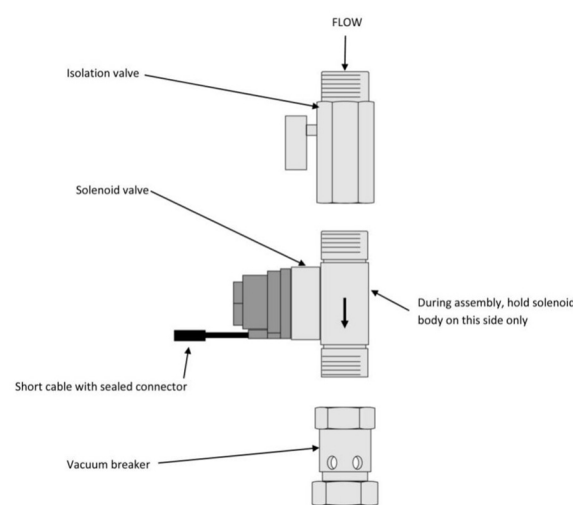

Fig. 3
3. Assemble flush valve components (Fig. 3) and follow directional arrow on solenoid valve body during assembly